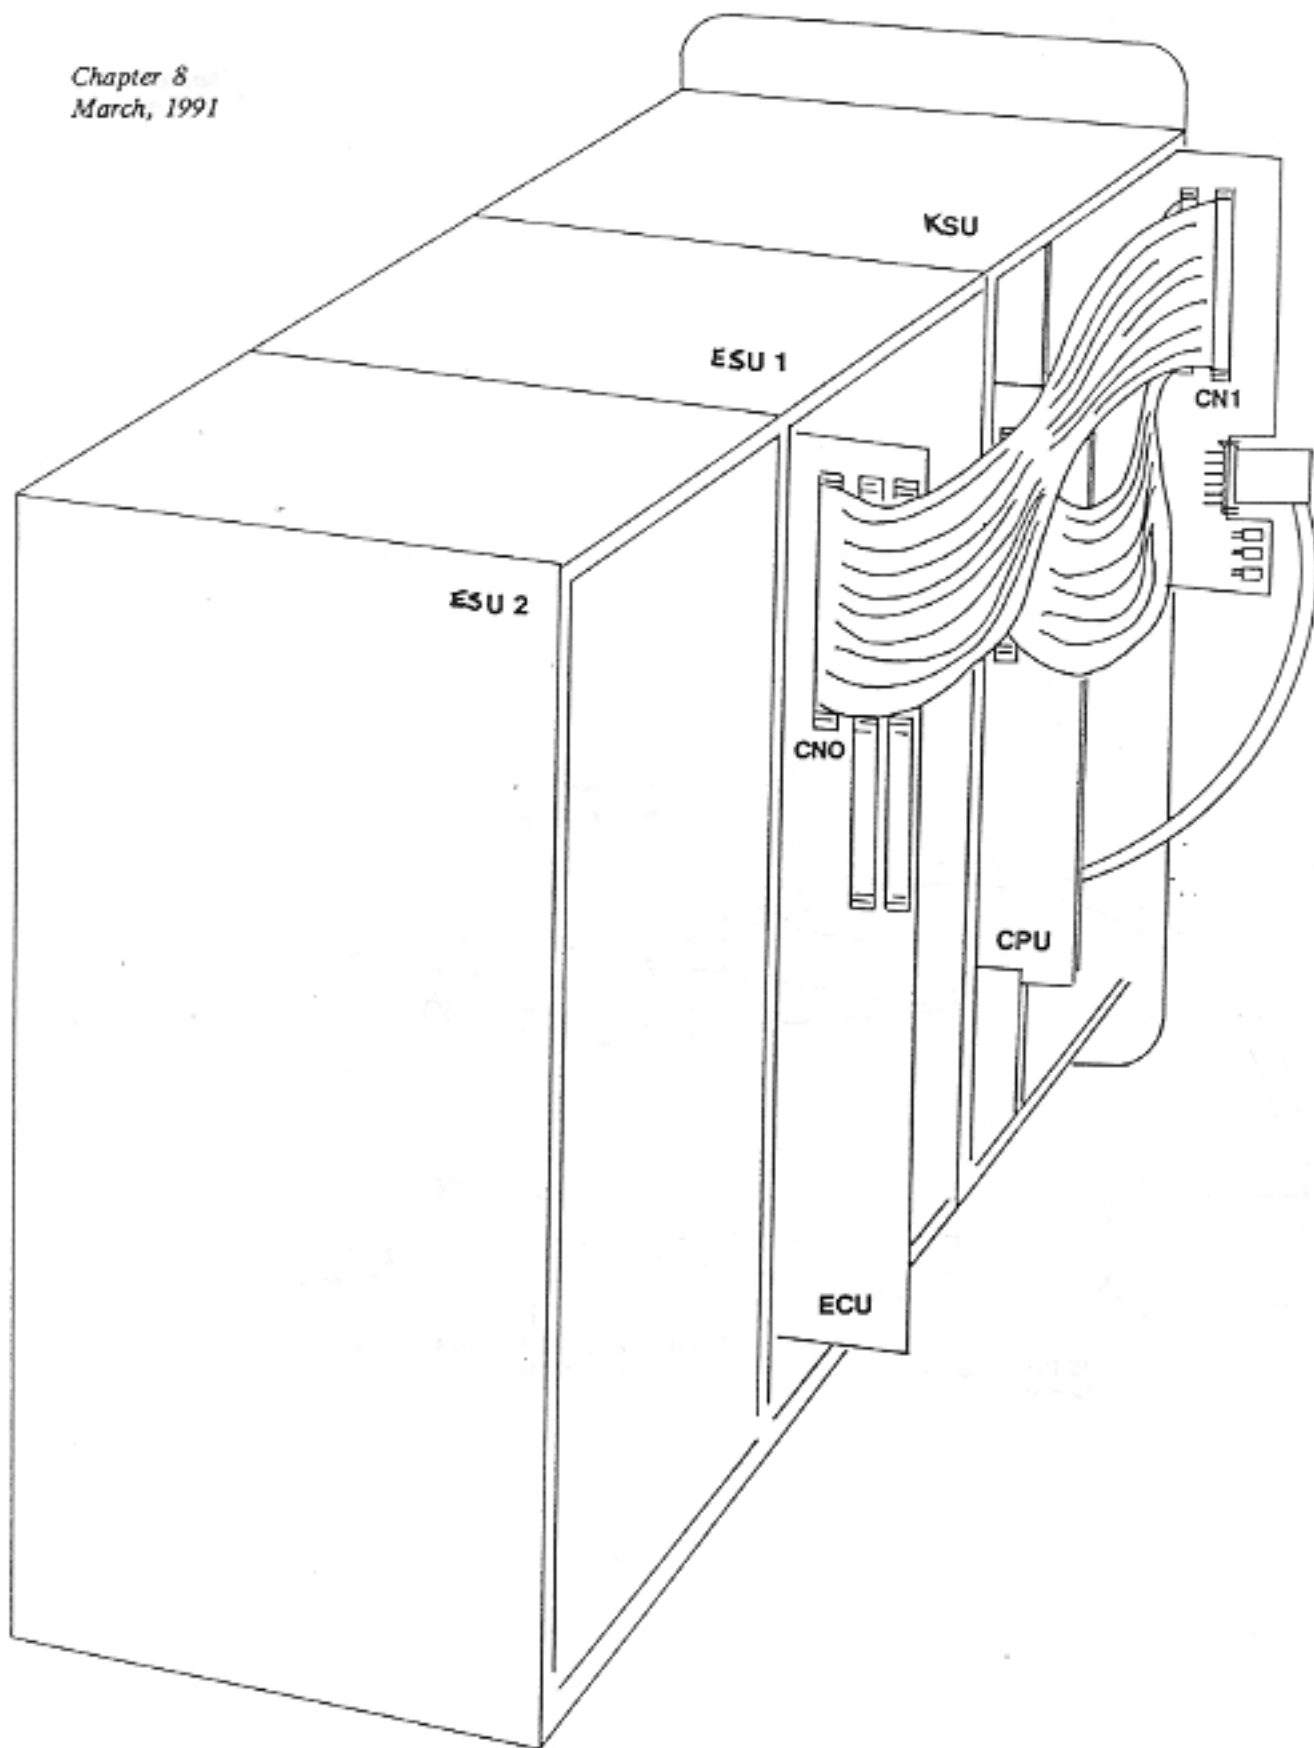

Figure 8-5 SMU Card Slot
4. Insert the SMU into the KSU "SMU" card slot just below the CPU card as shown in Figure 8-5.